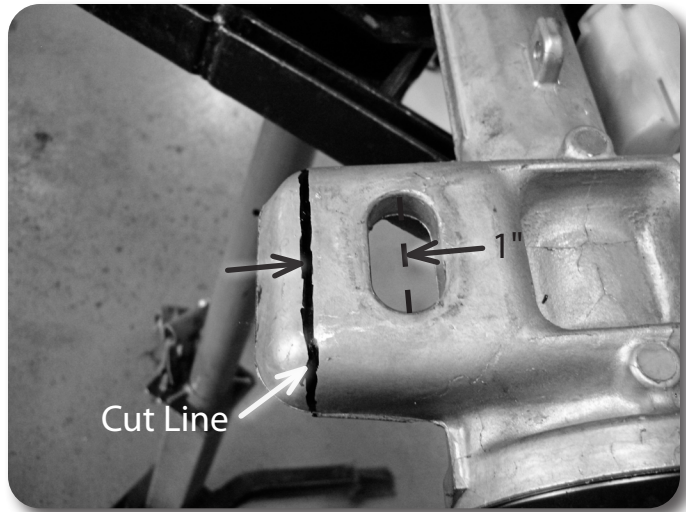
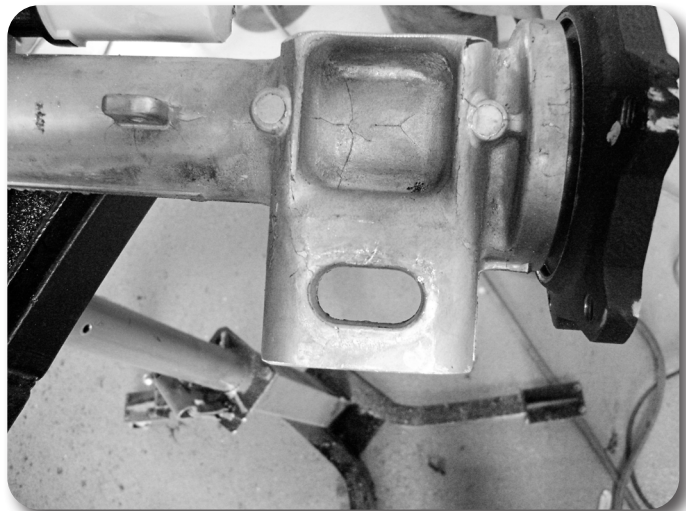

Figure 22
Figure 23
34. The rear side of this mount also needs to be trimmed. Measure 1" from the center of the slot and mark a cut line. Figure 22 Using a reciprocating saw, cut at the line Figure 23.